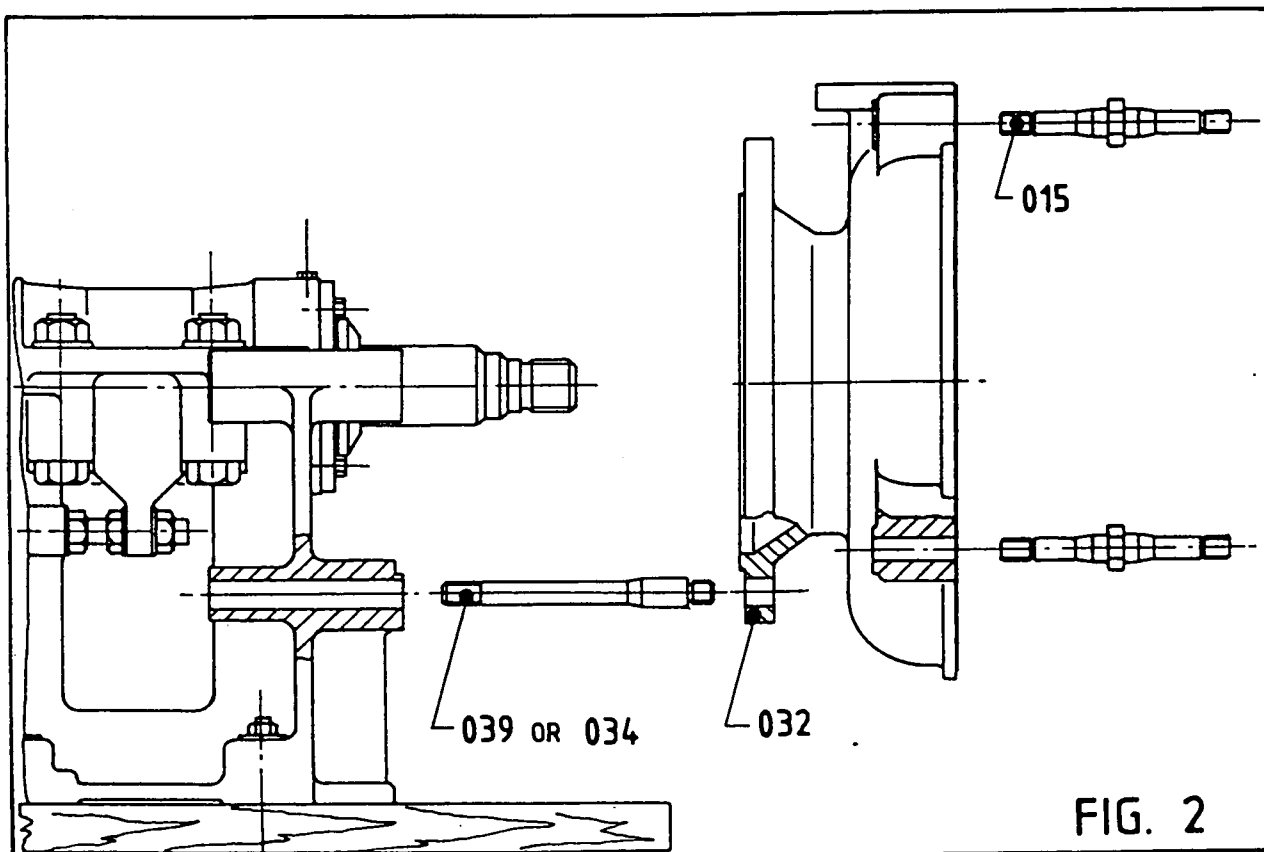

FIG. 2
- See Fig 2
1. Fit FRAME PLATE (032) to Base, making certain that the Frame Plate spigot has engaged with the corresponding base recess. Grease the recess to assist in future removal.